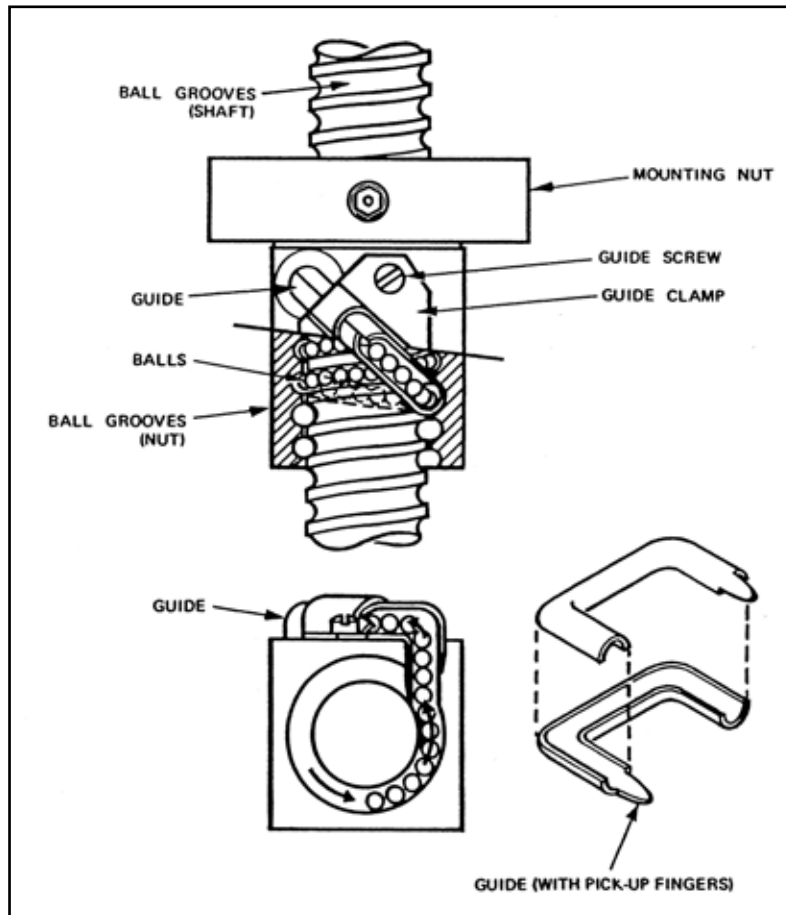

Figure 3 Ball Nut Assembly
The Saginaw Screw is a ball bearing screw power transmission device which converts the turning motion applied by the hand crank (1) into bi-directional force against the screw lever (7). The frictionless "easy" transfer results from the use of bearing balls circulated between the screw and nut in concave helical grooves. As the screw rotates inside the nut, the bearing balls are directed from one end and carried by a ball guide to the opposite end of the ball nut. Figure 3 on page 8 shows a cut-away view of the ball nut.